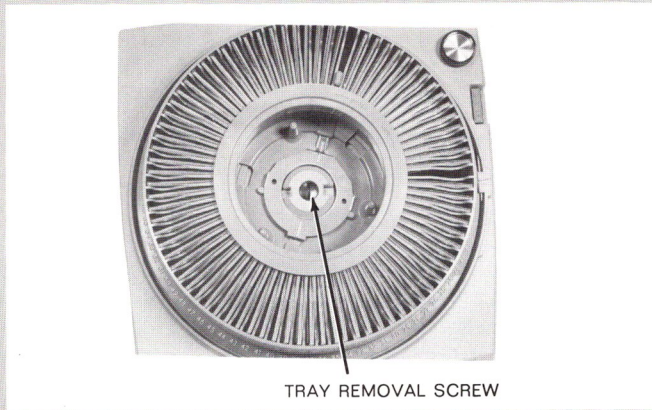

FIGURE 9
1. Turn the coin-slotted TRAY REMOVAL SCREW (Figure 9) in either direction as far as it will go.